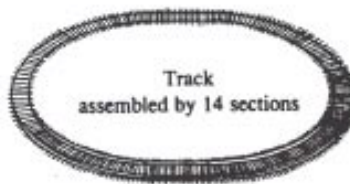
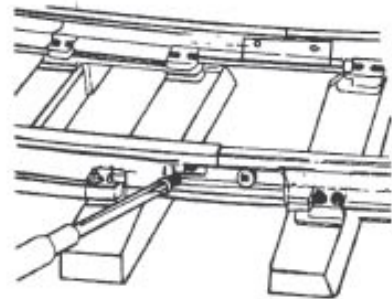

Fig. 2
Fig. 3
2. Join all twelve (12) curved track sections together (Fig. 2) to form a circle. If desired, each may be permanently attached to the adjoining section by inserting the small locking screw through the slot in the rail joiner into the hole in the rail and tightened (Fig. 3). These screws are stored underneath, in the hollow of one of the ties and encased in paraffin. If you do not wish to permanently join the track at this time, do not use the locking screws, but secure the sections together by using the provided plastic Tie Wraps. These Tie Wraps are inserted through the slot in the last tie and tightened. Please note that
B) Driving Wheels: To replace the brushes on the driving wheels, it is first necessary to swing the brake shoes out of the way as shown in Fig. 3. Then, remove the side rods by removing the crank and the drive wheel screws (Fig. 3). Gently pull the drive wheel off of the axle, remembering that the brushes are spring loaded and may fly out if care is not exercised. Insert the new brushes and